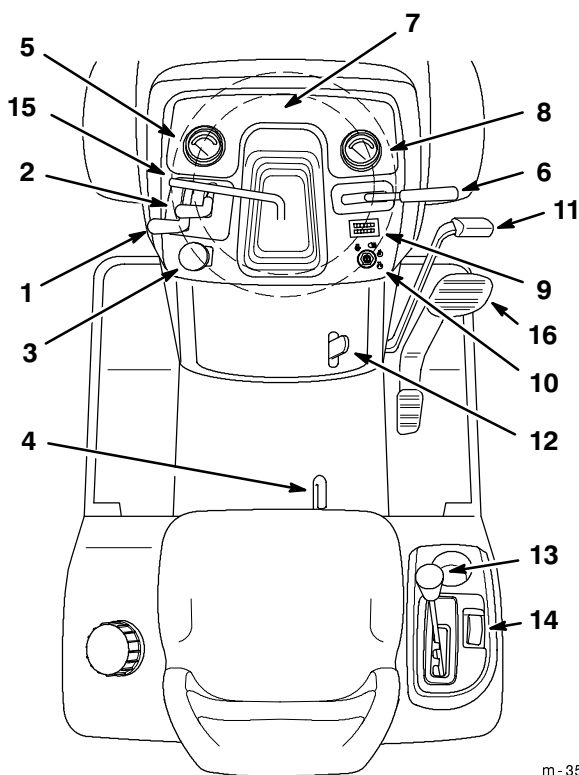

Figure 12
Become familiar with all the controls (Fig. 12) before you start the engine and operate the machine.
1. Push the brake pedal (Fig. 12) down and hold it.
2. Lift the parking brake lever (Fig. 12) up and gradually take your foot off the brake pedal. The brake pedal should stay down.
1. Push down on the brake pedal (Fig. 12).